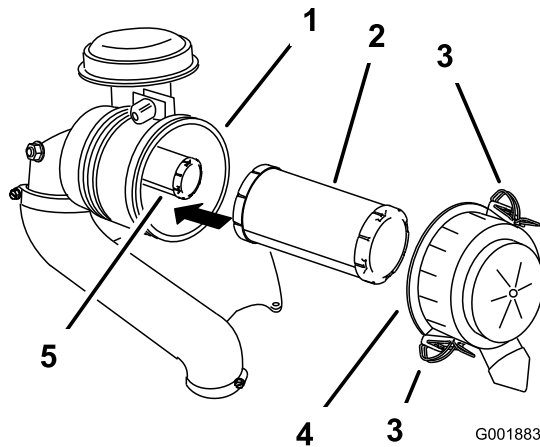

Figure 47
3. Release the latches on the air cleaner and pull the air-cleaner cover off the air-cleaner body (Figure 47).
5. Gently slide the primary filter out of the air-cleaner body (Figure 47).
2. If you are replacing the inner filter, carefully slide it into the filter body (Figure 47).
3. Carefully slide the primary filter over the safety filter (Figure 47).
4. Install the air-cleaner cover and secure the latches (Figure 47).